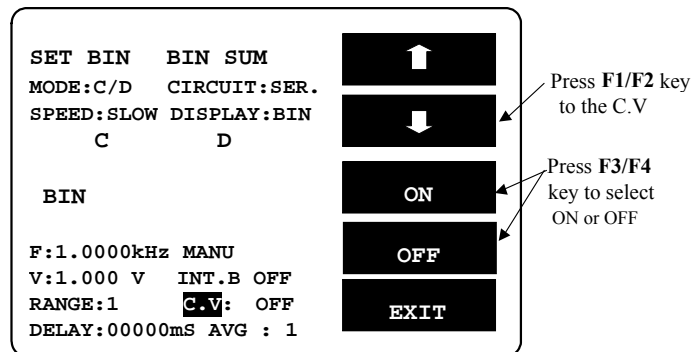

Figure 8-11
- Press F3 or F4 key to select ON or OFF shown as Figure 8-11 below. For further details, please refer to 4-5-5.